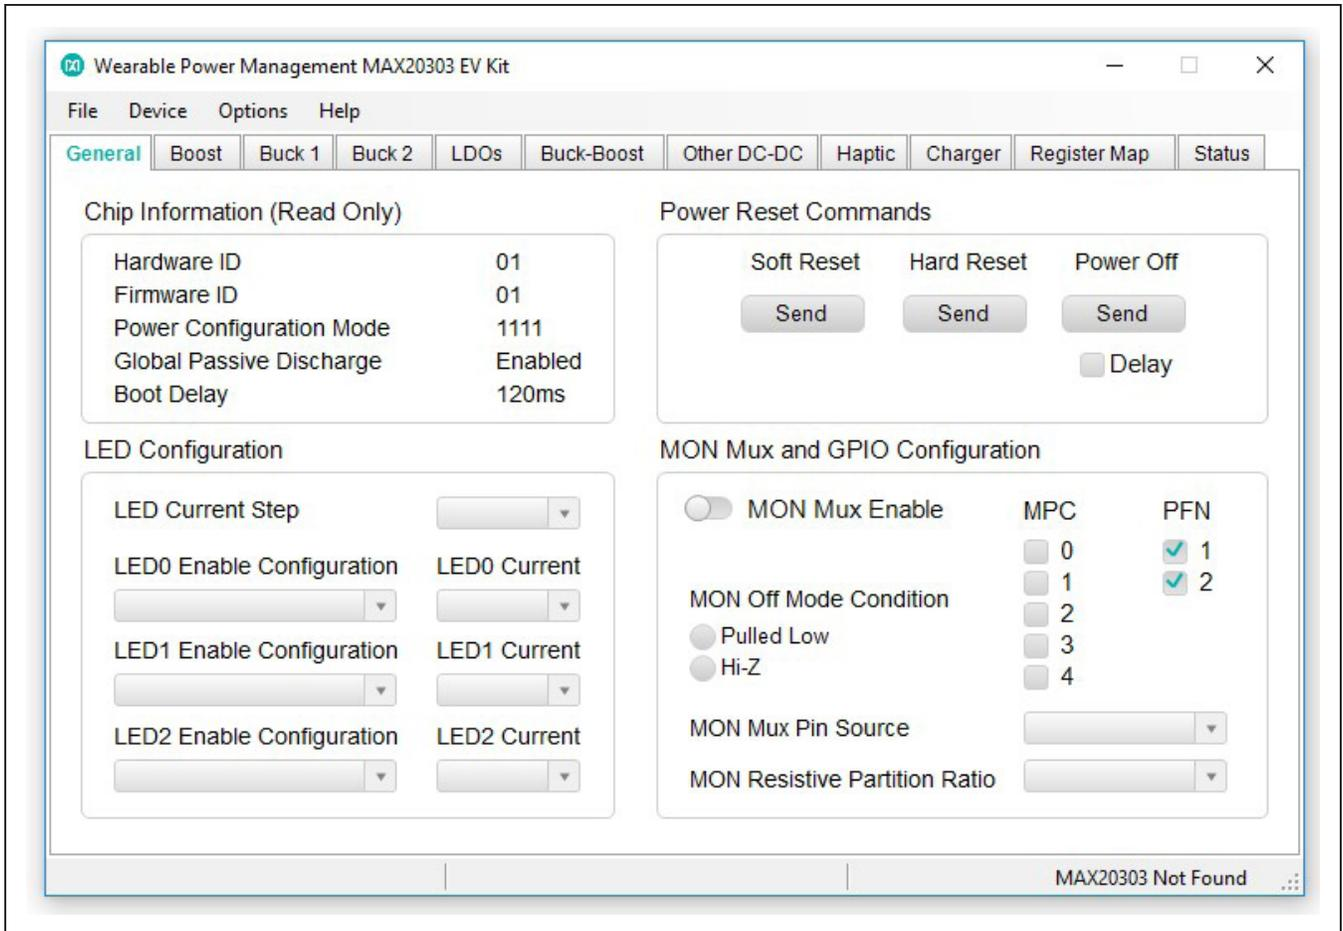

Figure 1. MAX20303 Not Found Status
- 7) On the computer, open the MAX20303 GUI. It should look like Figure 1; the status bar on the bottom displays **MAX20303 Not Found**.